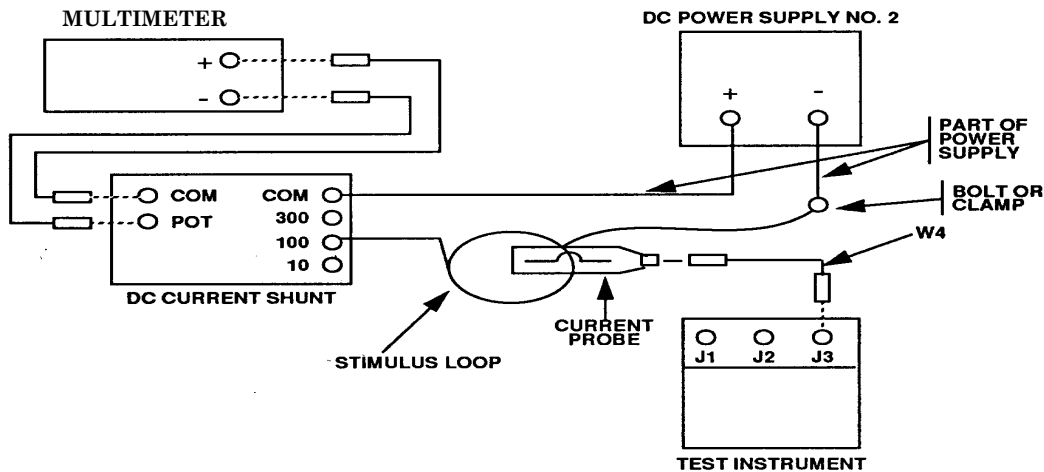

Figure 1. Dc current - equipment setup.
- (1) Connect equipment as shown in figure 1.
Fabricate a current stimulus loop as shown in figure 1. The loop design should be 20 turns of No. 10 insulated copper wire with a bundle diameter of the turns being no more than 1 inch. The inside diameter of the loop should be 6 inches,  $\pm 1$  inch. Care should be taken to ensure that the loop does not overheat.